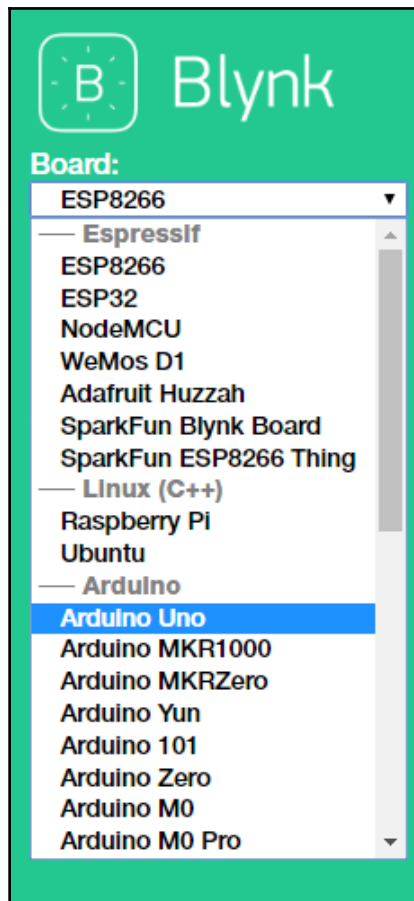

Figure 2.29: Selecting the board type
2. Choose **Arduino Uno** from the **Board** drop-down list (Figure 2.29):